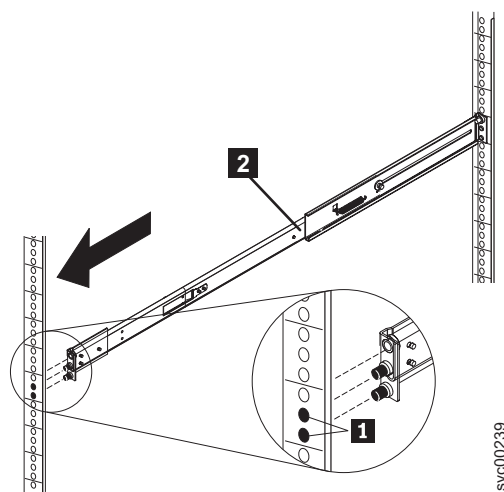

Figure 39. Extending the right slide rail
4. Extend the right slide rail **2** and insert it into the front rack mounting flange, as shown in Figure 39, with the rail pins **1** protruding through the flange. Insert the left slide rail in the same way.